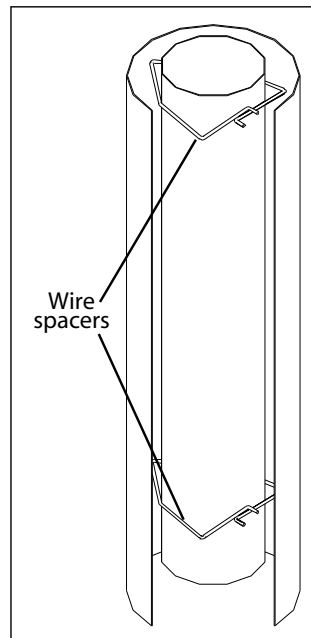

Figure 30: Cut away of spacers on Flex Pipe.
11. Stretch the liner out. Attach the flexible liner to the vent termination cap by placing a small bead of high temperature silicone on the vent termination and slide the flex liner onto the vent terminal and secure with three (3) sheet metal screws evenly spaced.
12. Dress the flex liner through the wall thimble and attach the vent terminal to the outside of the house using four (4) wood screws provided. The use of non-hardening mastic should be used around the vent to ensure a watertight seal.
13. Install two (2) wire spacer around the flex pipe. Slide the horizontal section of pipe over the flexible liner. Ensure the wire spacers are positioned at either end of the pipe (refer to Figure 30 and 31).
18. Install the remaining wire spacers over the flexible liner and install the vertical section of pipe. Ensure the wire spacers are positioned at either end of the pipe (refer to Figure 30 and 31).
19. Place a bead of high temperature silicone on the flue pipe and slide the flex liner over the collar, secure the flex liner with three (3) sheet metal screws evenly spaced.